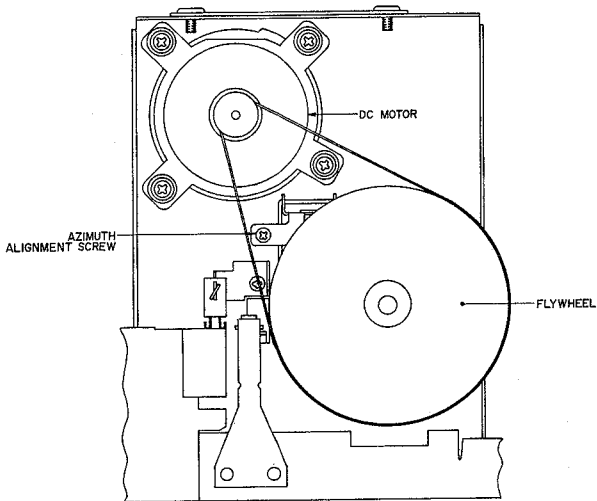

Fig. 6 Azimuth Alignment Adjustment
1. AZIMUTH ALIGNMENT ADJUSTMENT (Refer to Fig. 6)